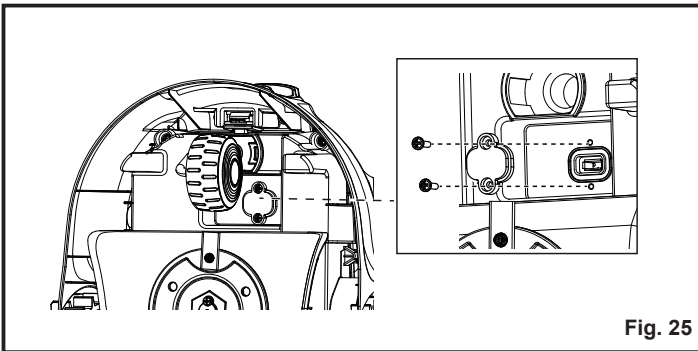

Fig. 25
3. Turn the mower upside-down. Wearing protective gloves, use a screwdriver to remove the two screws holding the USB port cap. Remove the cap to reveal the USB port (Fig. 25).